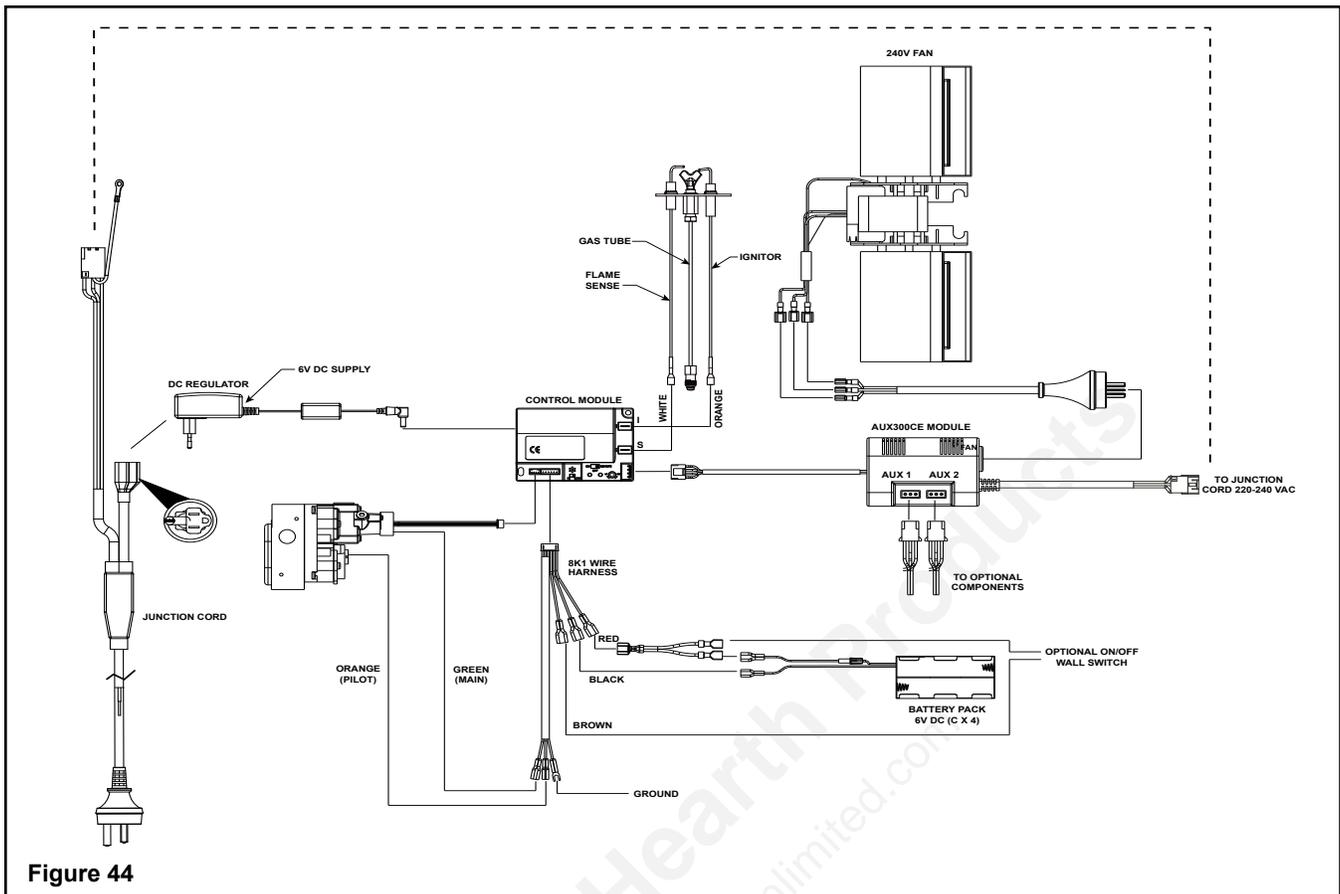

Figure 44
2. A wall switch can be wired into the control module brown and red wires. See Figure 44.